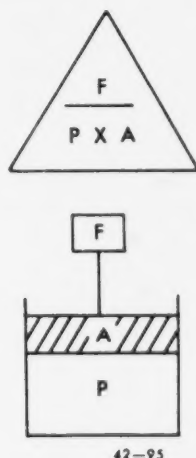

Figure 1-3. Relationship of force, area, and pressure.
Relationship of Force, Pressure, and Area. If we know any two of these factors, we can easily figure the third. To help in doing this, apply figure 1-3. Such a triangle is used in several areas of knowledge. To apply it, always multiply the two lower values to get the top value. Or divide the top value by the know lower value to get the other (unknown) lower value. For example, we know that force is the total of the pressures acting in each unit of area. Also, pressure is the total pounds of force divided up between the total square inches of area. To apply the triangle, if you know the values of A and P and want to get F, cover F and multiply A times P. This gives you the value of F. If you know the values of A and F and want P, cover P and divide F by A. If you have the values of P and F and need A, cover A and divide F by P.
Example 1: A pressure of 50 pounds per square inch acts on a piston whose surface area is 5 square inches. What is the force acting on the piston? Use figure 1-3. Cover F and multiply P (50 psi) times A (5 square inches). The result is that F is a force of 250 pounds on the surface of the piston.
Example 2: A force of 480 pounds is exerted on a surface whose area is 12 square inches. What is the pressure on the surface? Use figure 1-3 again. Cover P ; divide 480 pounds (F) by 12 square inches (A). P will be a pressure of 40 pounds per square inch.